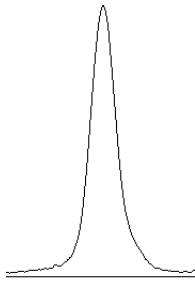

Figure 15. Real western blots often have some background noise, so the peak doesn't reach down to the baseline (= perfect white).
10. On our idealized western blot used here, there is no background noise, so the peak reaches all the way down to the baseline of the profile plot. In real western blots, there will be some background noise (the background will not be perfectly white), so the peaks won't reach the baseline of the profile plot (Figure 15). As a result, each plot will need to have a line drawn across the base of the peak to close it off.